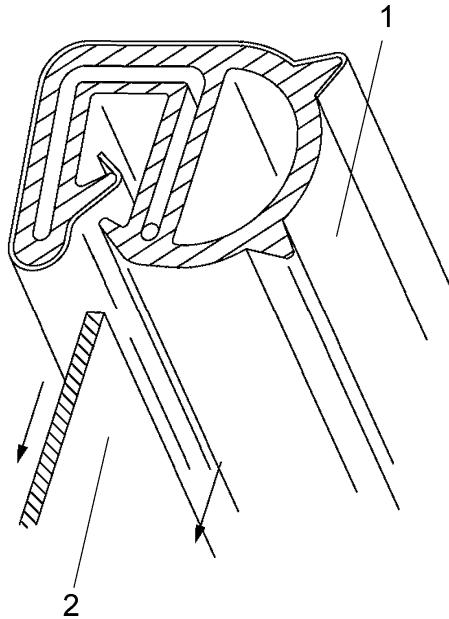

Figure 3-17: Gasket Detail
5. Remove defective gasket (1) from service opening by pulling it off. See Figure 3-17. Remove any sealant reminders. If necessary, clean the edge of the service opening.
6. Attach the gasket (1) to the edge of the service opening (2) as shown in Figure 3-17.